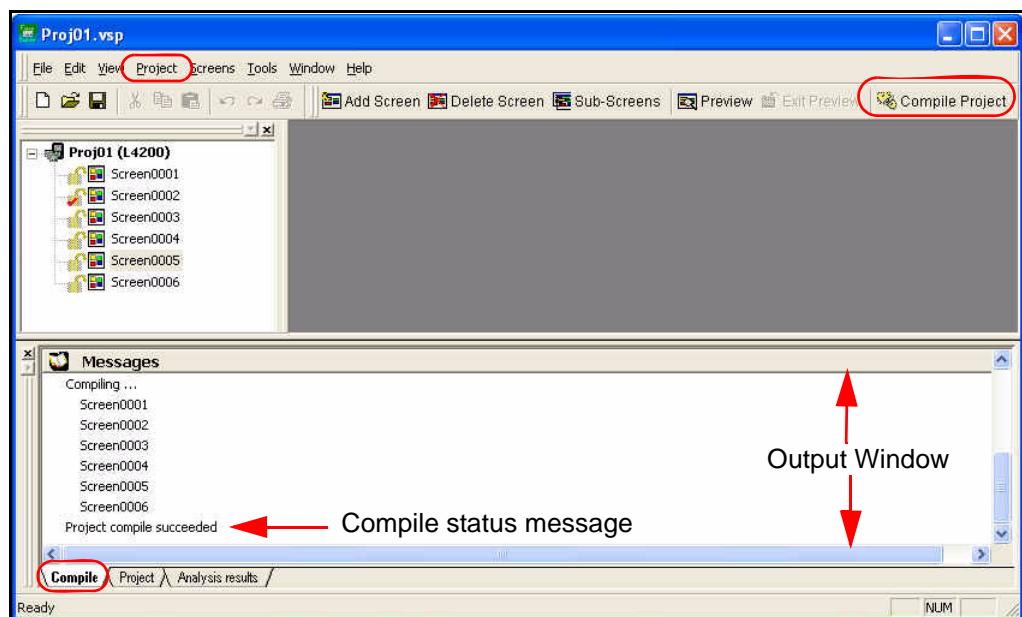

Figure 2-64 Compile Option
1. Select **Project > Compile** or click the **Compile Project** button in the top right corner of the FormBuilder window as shown in *Figure 2-64*, above. The result of the compile is shown on the **Compile** tab of the output window. If there are no errors, a compile succeeded status message appears in the output window.